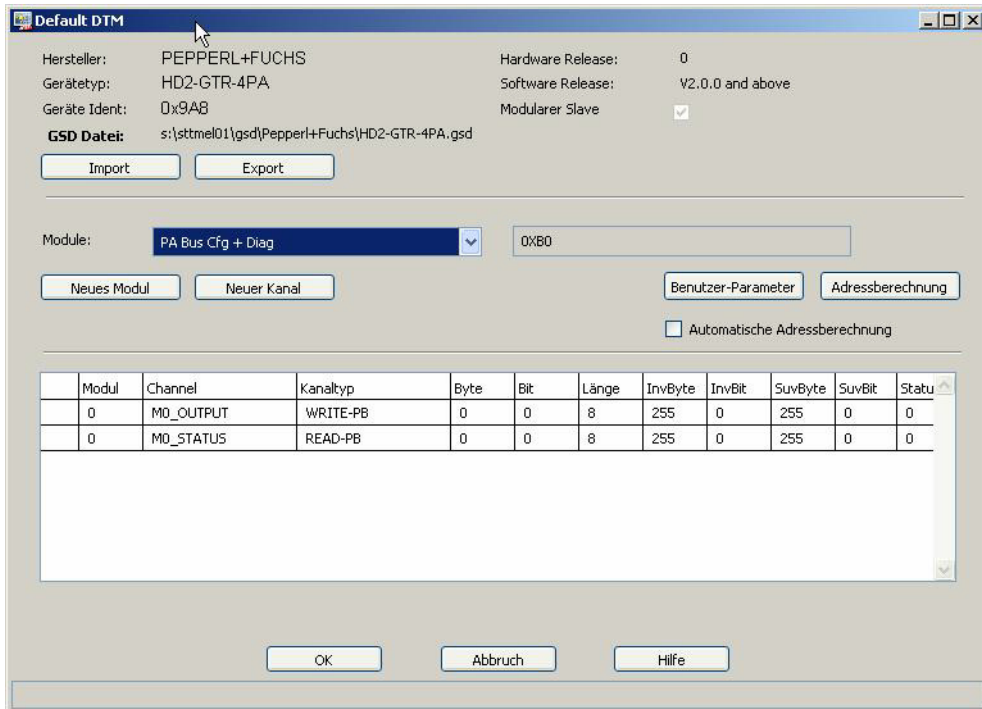

Figure 12. AC 870P / Melody - Gateway Module Configuration
- Choose module “PA Bus Cfg + Diag” with channels and data types as shown in Figure 12.